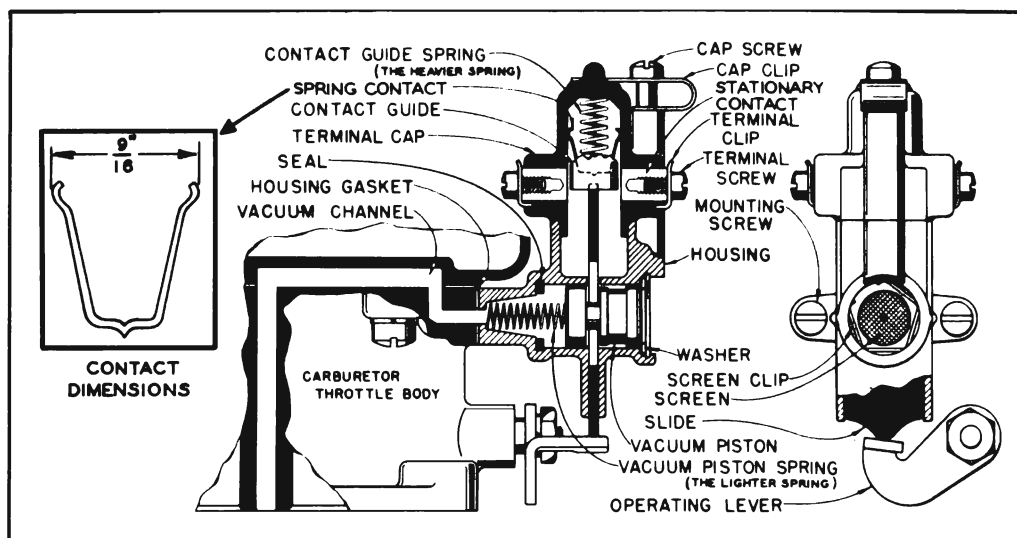

Figure 10-34—Stromberg Accelerator Vacuum Switch—Engine Not Running
vent leaks when a piston opposed by a light spring is drawn against it by vacuum. The opposite end of the barrel is vented to outside air through a fine mesh screen which is held in place by a screen clip. A flat slide, actuated by an operating lever on the throttle shaft, moves in a confined slot in the housing and in a plane perpendicular to the axis of the cylinder barrel. This slide engages a cylindrical bakelite contact guide, the upward movement of which is opposed by a heavy contact guide spring. The contact guide carries a thin U-shaped spring contact which moves up and down within a bakelite terminal cap to engage stationary contacts for opening and closing the cranking motor control circuit. The terminal cap is held in place by a cap screw and cap clip. See figure 10-34.
Figure 10-34 shows the accelerator vacuum switch with engine not running. The throttle is closed and the switch operating lever holds the slide in the upper position, thereby holding the U-shaped spring contact away from the stationary contacts in the terminal cap.
The switch may be readily disassembled by referring to figure 10-34. Wash all metal parts in Bendix Metalclene, or equivalent, and wipe
1. Make certain that the contact guide spring and the vacuum piston spring are installed in their proper positions. The contact guide spring may be identified as the heavier of the two springs. See figure 10-34.
3. Use care in handling the U-shaped contact spring to avoid altering the dimension of the open end. The open end measures  $\frac{9}{16}$ " from outside to outside of the curved ends of spring. See figure 10-34.